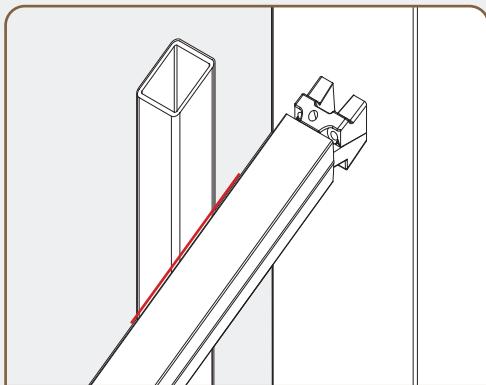

Fig. 29-2 - Mark baluster along top edge of spacer
- Make a pencil mark on baluster along top edge of spacer (Fig. 29-2)